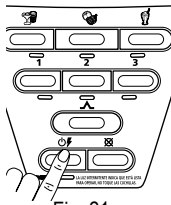

Fig. 21
1. Press the  (Fig. 21) power button to turn the product on.
3. Press the  (Fig. 21) power button to turn the product off.
3. Press the power button to turn the product off (Fig. 21).
3. Press the power button  (Fig. 21) to turn the product off.